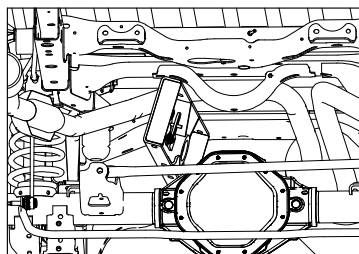

Figure C1: View under bed looking from rear towards the axle
1. **Position the center section.** Position the center section so that the 4" diameter raised area of the center fits into the 4" diameter hole in the truck bed while the 3/8" square hole is centered under the 3/4" diameter hole in the truck bed. When installed the round receiver will be almost directly above the axle of the pickup. If the pickup is equipped with dual exhaust the installation is more difficult. From behind the rear axle and with the bottom side of the center facing the passenger side of the truck, send the end of the center without the spring over the axle first, see Figure C1. Send the lead end of the center toward the front of the truck and to the passenger side far enough so the end of the center toward the rear of the truck will clear the exhaust, see Figure C2.